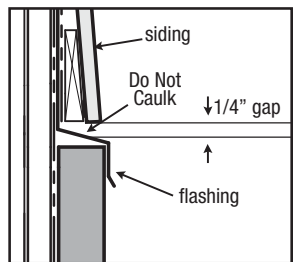

FIGURE 11
- Maintain a 1/4" clearance between the bottom of James Hardie products and horizontal flashing. Do not caulk gap (fig. 11).